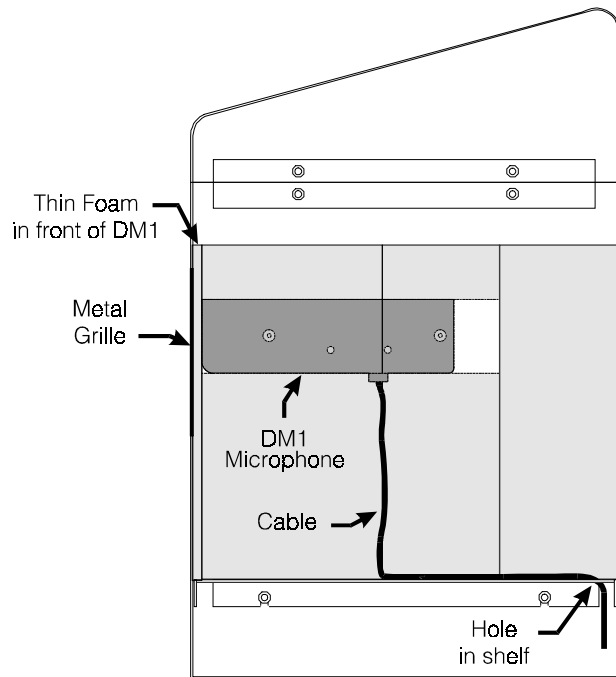

Figure E-2. DM1 and foam inserts shown in typical SPP2 speaker post installation
- Route the DM1 cable down through the hole in the shelf as shown in Figure E-2.